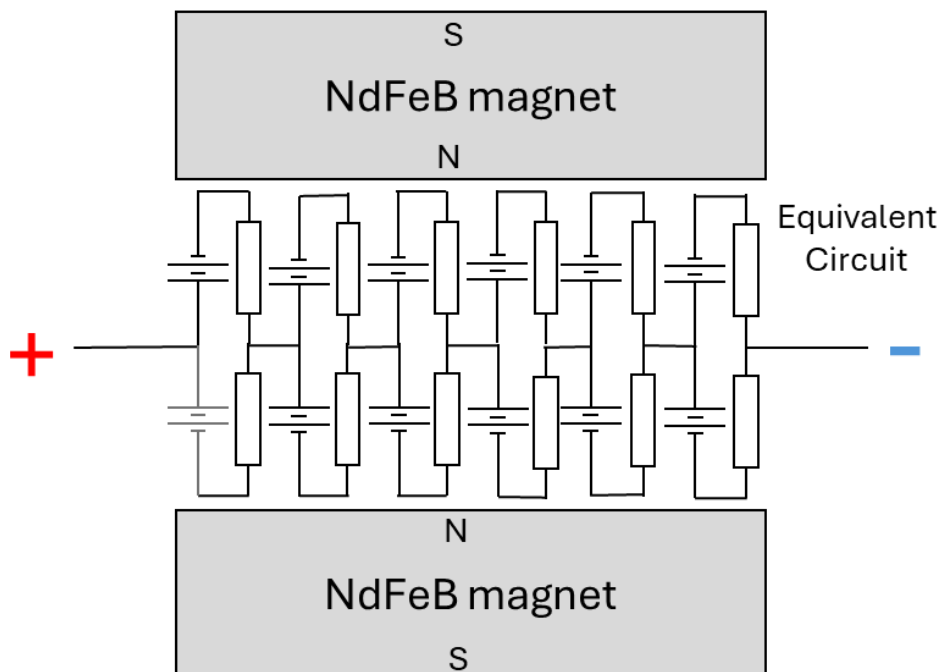

**Figure 3**
FEMM is a 2D simulator, so it applies to a system that is infinitely long in the z direction. It can usefully be used for systems that have dimension in the z direction that is considerably longer than their x and y dimensions. Thus, it can apply to the setup shown in Figure 3 where an array of iron wires is placed between two long rectangular permanent magnets.
Applying (5) to the  $B$  field values shown in Figure 2 and taking  $B_S$  of iron as 1.7 Tesla yields 10.6 $\mu$ V. Figure 3 shows 18 wires and that would produce 190 $\mu$ V.